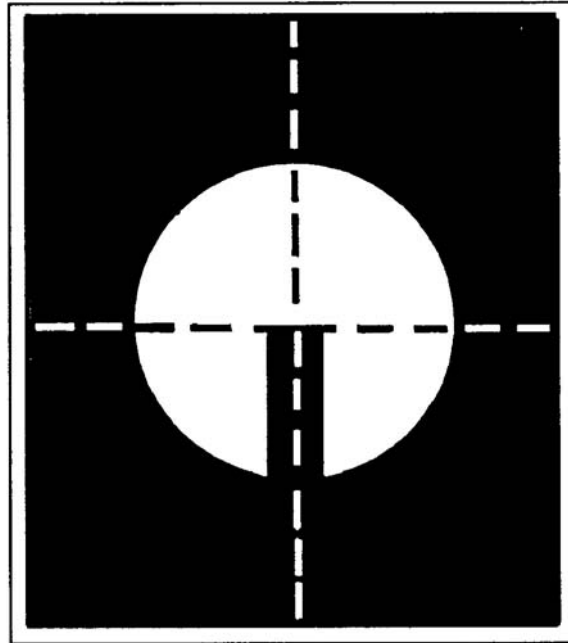

Figure 6. Correct sight alignment.
- a. Sight alignment. Center the front sight post in the peep sight (Figure 6).